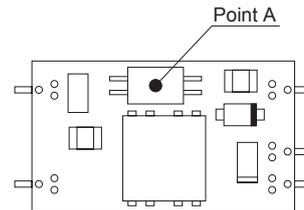

Fig.7.1 Temperature Measuring Point in the case of Forced Air Cooling
① SU1R5
■In the case of forced air cooling (1m/s), please have sufficient ventilation to keep the temperature of point A in Fig.7.1 at 105°C or below.